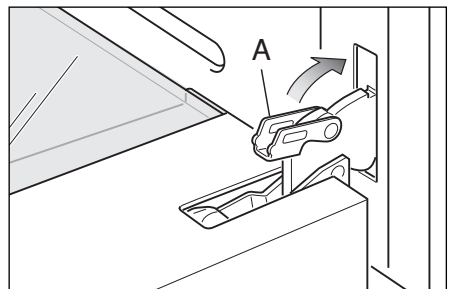

Fig.43d
- 4 Unlock the oven door by opening it completely and closing the lever "A" on the left and right hinges (Fig. 43d).